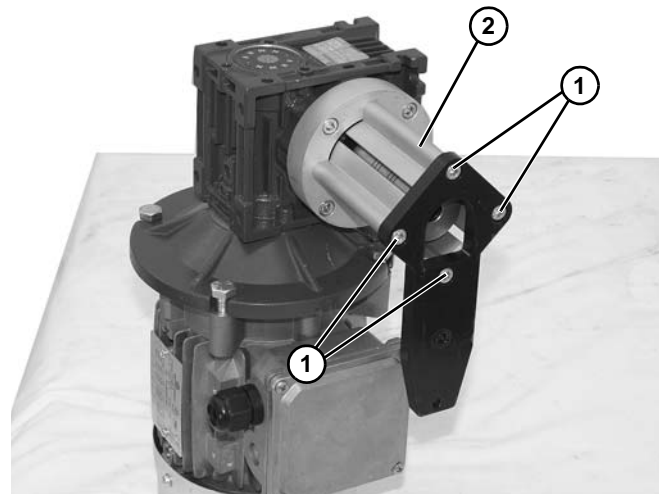

Figure 26
3. Remove four (4) screws (Figure 26, item 1) and remove mounting bracket & tube (Figure 26, item 2).
11. Attach mounting bracket & tube (Figure 26, item 2) to gearmotor. Tighten screws (Figure 26, item 1) to 103 in-lb (12 Nm).
7. Attach mounting bracket & tube (**Figure 26, item 2**) to gearmotor. Tighten screws (**Figure 26, item 1**) to 103 in-lb (12 Nm).